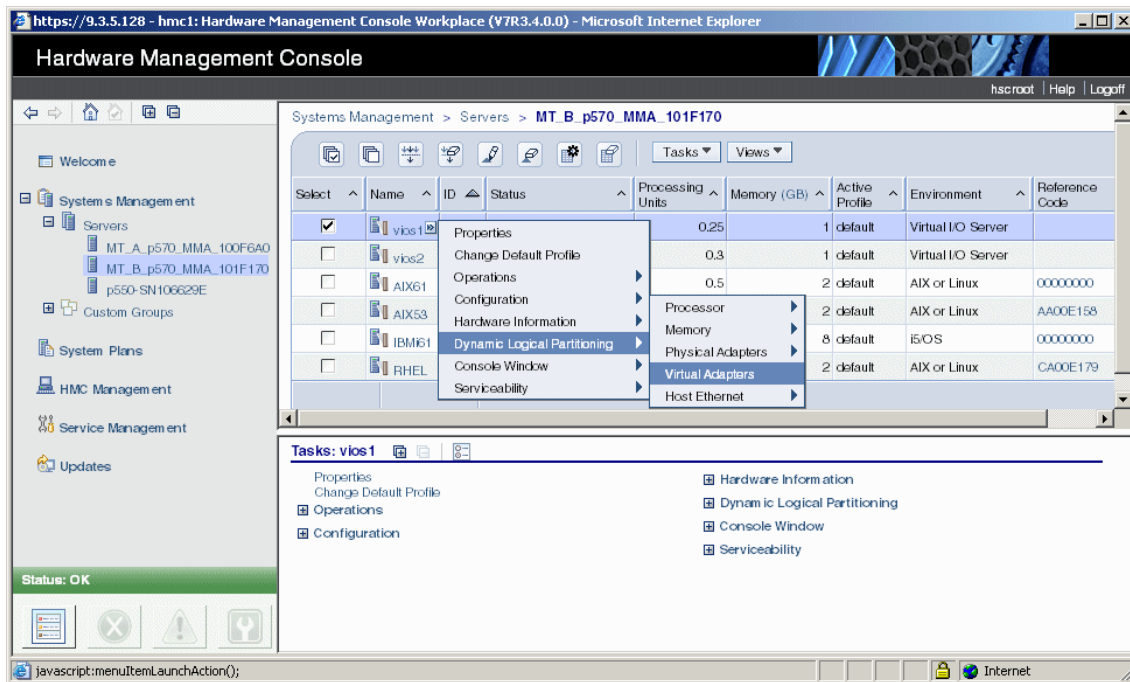

Figure 2-29 Dynamically add virtual adapter.
- b. Select the Virtual I/O Server partition on which the virtual Fibre Channel server adapter is to be configured. Then select **Tasks** → **Dynamic Logical Partitioning** → **Virtual Adapters** as shown in Figure 2-29: